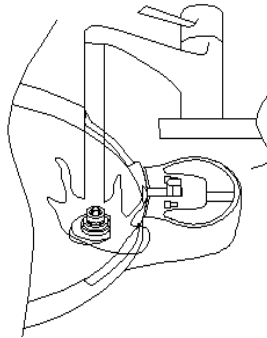

Figure 7
- Using a pointed object make sure it is clean and there are no food residues. (figure 7) Remove food residues using a wooden object. If residues are sticky, allow to dry and then release in hot water for a while until becomes softer. Remove with a wooden object. Do not use sharp tools because they can cause damage to the lid.